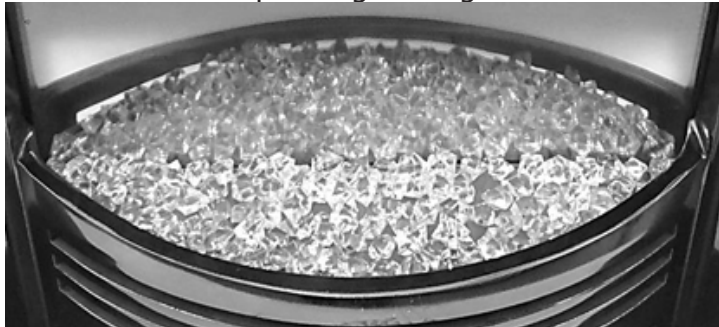

Fig. 2
1. Place crystals on fuelbed, covering the top surface of the fuelbed. These will provide a glowing embers effect, when the flame effect is operating. See Fig.2 below.